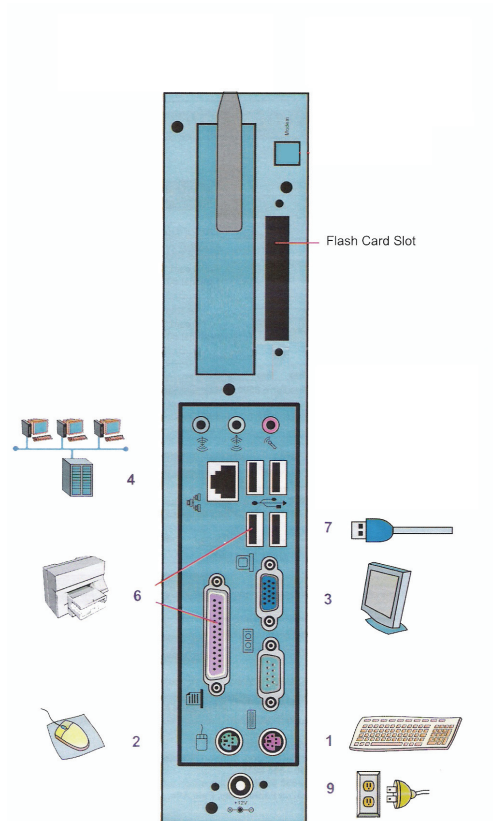

Figure 1. AIC Connectors for Revision B
6. Connect one end of the network crossover cable (Part Number G4690-60000) to the computer and the other end to the main network port of the Agilent Instrument Controller if more than one network port is available. (See Figure 1.)